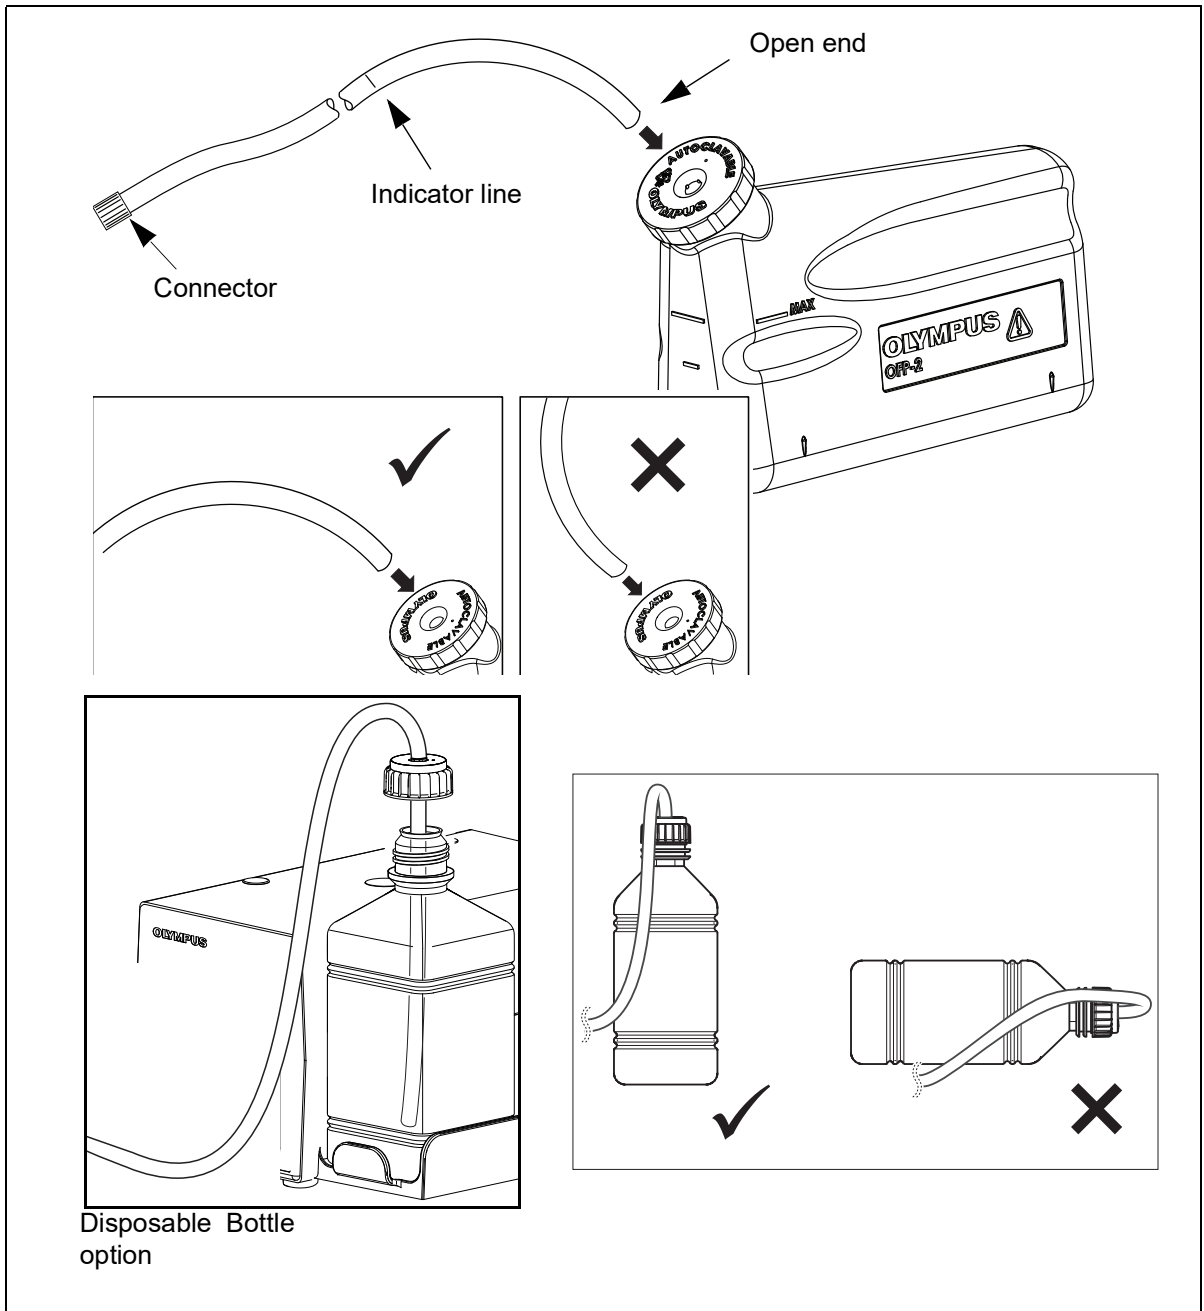

Figure 3.4
10. For water container use, refer to Figure 3.4 and push the open end of the tube into the water container up to the indicator line noting the orientation of the tube as shown.